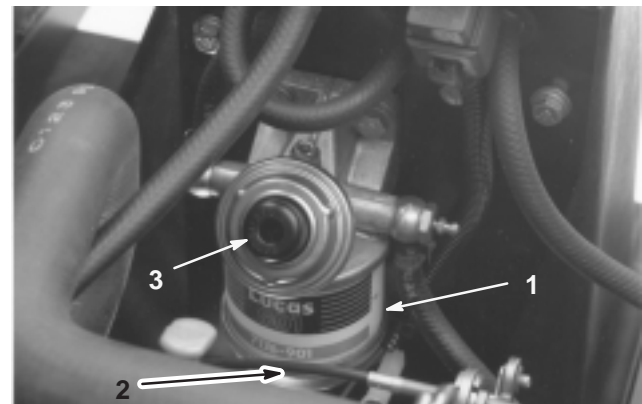

Figure 42
1. Place a clean container under fuel filter (Fig. 42).